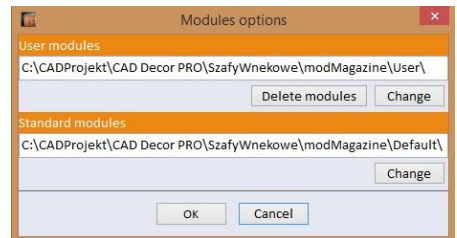

Fig. 46 - Module options
- **'Module options'** - here you can change the folder for saving your modules, choose another directory from which standard modules available in the database will be loaded or delete all saved user modules (Fig. 46). For more information about the modules please see point 5.5. on page 46.